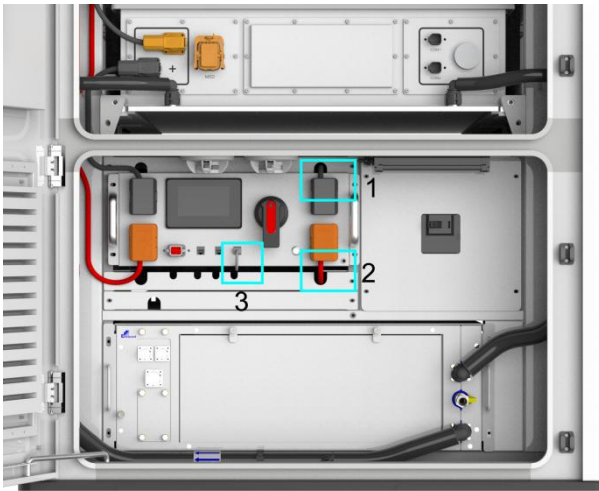

Figure3-2 1~3 To be wired
- * Check the model, etc. of energy storage system (the delivering information can be find on the label at the side of the package, position as shown in Figure3-2), ensure that the model is in accordance with the ordered model.